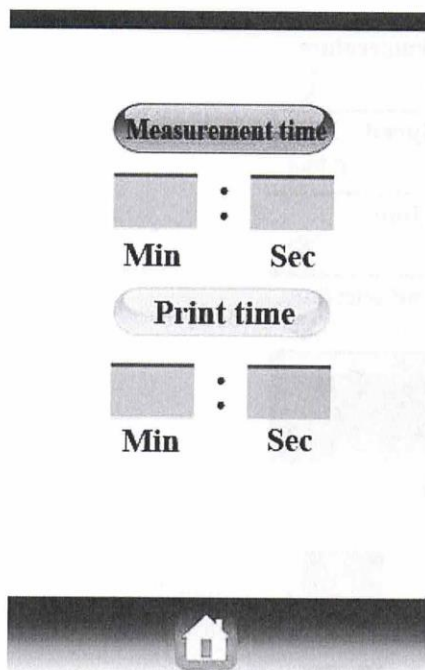

Fig. 3
2. Timing and print interval setting(Fig. 3): To set the end time. The default value is 00:00.